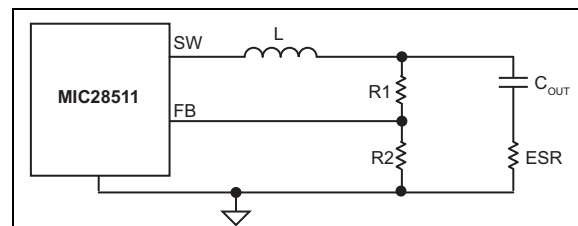

FIGURE 5-4: Enough Ripple at FB.
- Enough ripple at the feedback voltage due to the large ESR of the output capacitors (Figure 5-4). The converter is stable without any ripple injection.